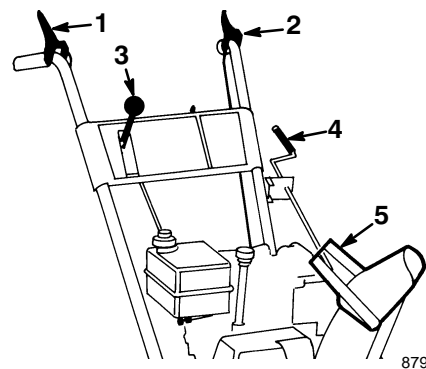

Figure 15
4. Move speed selector (Fig. 15) into third gear.
- **Auger/Impeller Drive Control Lever** (Fig. 15)—To engage both the auger and impeller, press the lever against the right handgrip. To disengage, release the lever.
- **Traction Control Lever** (Fig. 15)—To engage the traction (wheel drive), press the lever against left handgrip. To stop traction, release the lever.
- **Speed Selector** (Fig. 15)—This control has five positions: two reverse and three forward gears. To change speeds, move gear the shift to the desired position. The lever locks in a notch at each speed selection.
- **Discharge Chute Control** (Fig. 15)—Rotate the discharge chute control clockwise to move the discharge chute to the left and counterclockwise to move the chute to the right.
- **Chute Deflector Handle** (Fig. 15)—Move the deflector handle forward to move the snow stream down and rearward to move the snow stream up.
1. Release the traction and auger/impeller drive controls (Fig. 15).
1. Release the traction and auger/impeller control levers (Fig. 15).